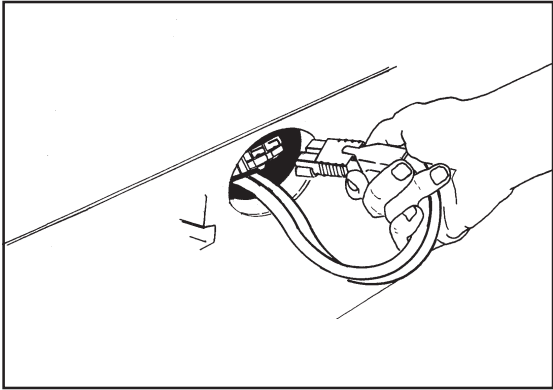

Figure 22
4. Join the connector from the batteries to the control panel cable connection. See figure 22.